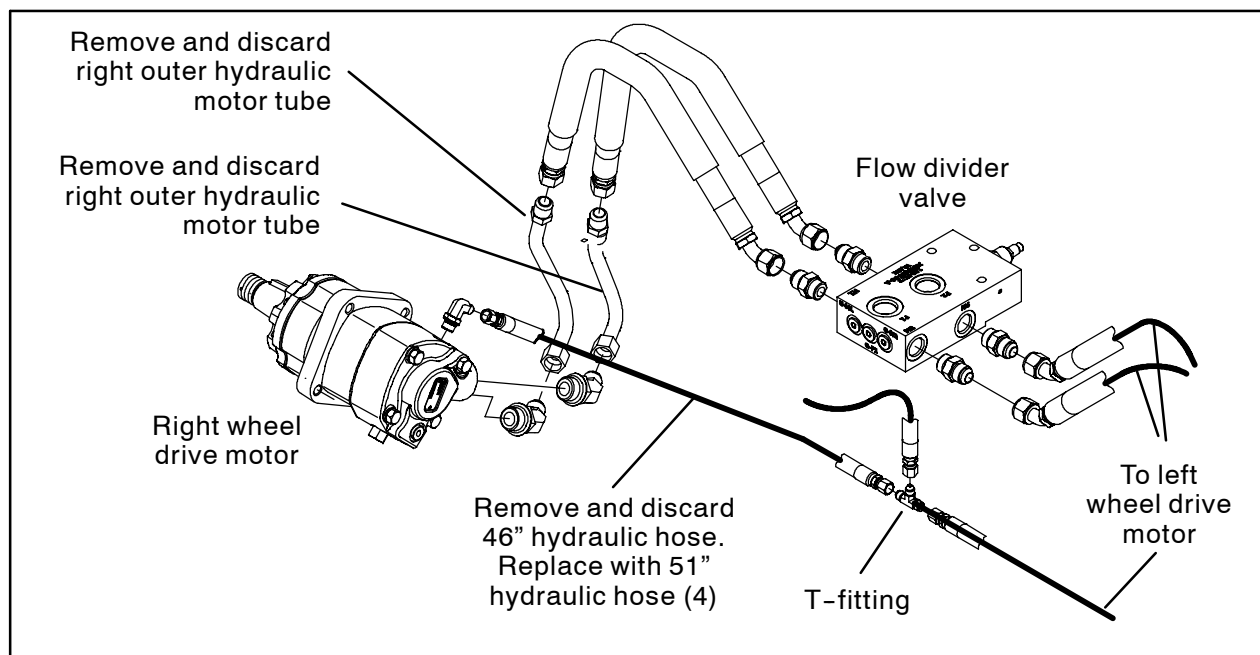

FIG. 3
3. Remove both hydraulic tubes from the right wheel drive motor. Discard the hydraulic tubes. Refer to Fig. 3.
4. Disconnect the 46" hydraulic hose from the t-fitting and the right wheel drive motor. Discard the hose. Refer to Fig. 3.
5. Connect the 51" hydraulic hose (4) to the t-fitting. Refer to Fig. 3.